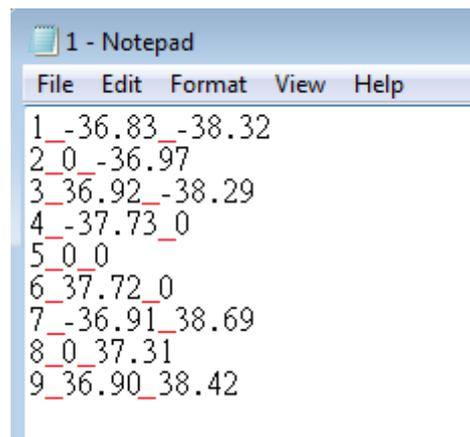

Fig. 4.3.10
**From File...** Users can create a \*.txt file as a correction file and using this function to import that file as the coordinates of X and Y, see Fig.4.3.10.